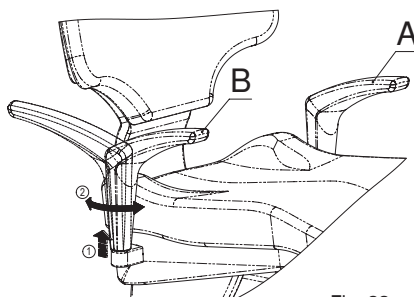

Fig. 23
To rotate the optional armrest (A), it must be pulled upwards (kept in its housing) until the rotation mechanism is released, allowing it to be turned until reaching the track limit where it stops. To return the armrest to its initial position, simply lift it and turn it inside until it locks automatically (Fig. 23).